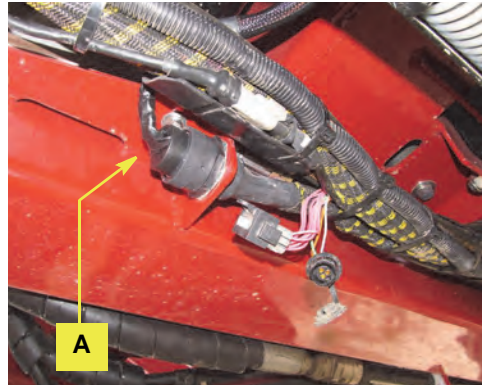

Figure 2b: Interface cable installed
b. Disconnect the machine's connector and connect the 31-pin connector of interface cable **A** (Figure 2b). Dust/weatherproof unused/exposed connections.